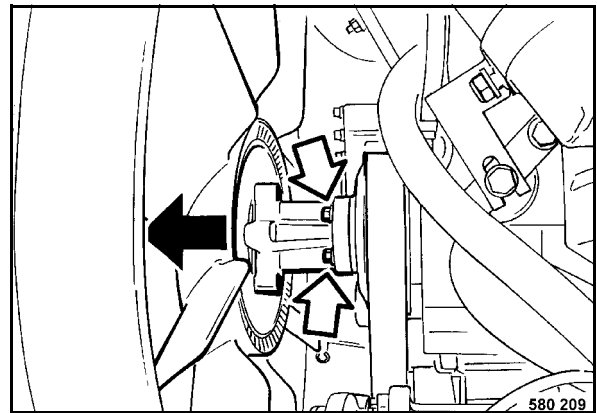

Fig. 156
- Unscrew the fastening screws (Fig. 156) and slide the fan forward.